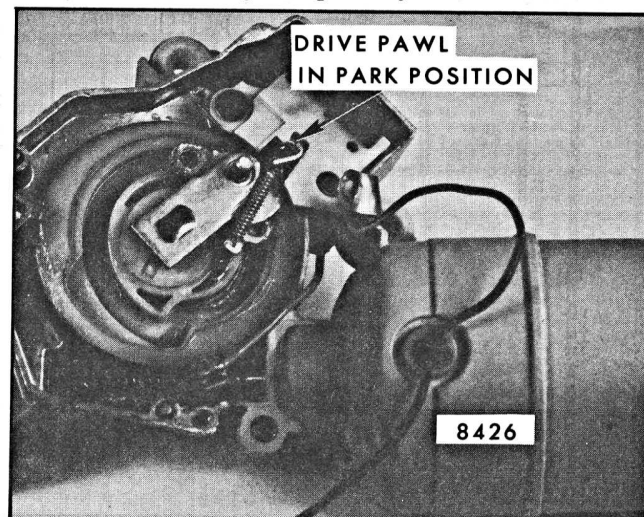

Fig. 2-76-Drive Pawl in Park
1. It causes the gear assembly drive pawl to push the relay latch arm into the relay housing (Fig. 2-76), which opens the relay switch contacts. This opens the B plus circuit to the pulse relay coil. The pulse relay contacts then open which shuts off the B plus feed to the motor.